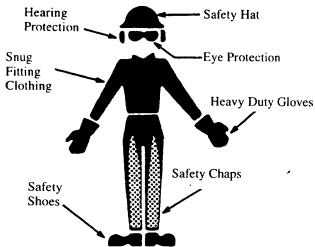

Figure 1
1. **Wear protective gear.** Figure 1. Always use steel-toed safety footwear with non-slip soles; snug-fitting clothing; heavy-duty, non-slip gloves; eye protection such as non-fogging, vented goggles or face screen; an approved safety hard hat; and sound barriers -- ear plugs or mufflers to protect your hearing. Regular users should have hearing checked regularly as chain saw noise can damage hearing.